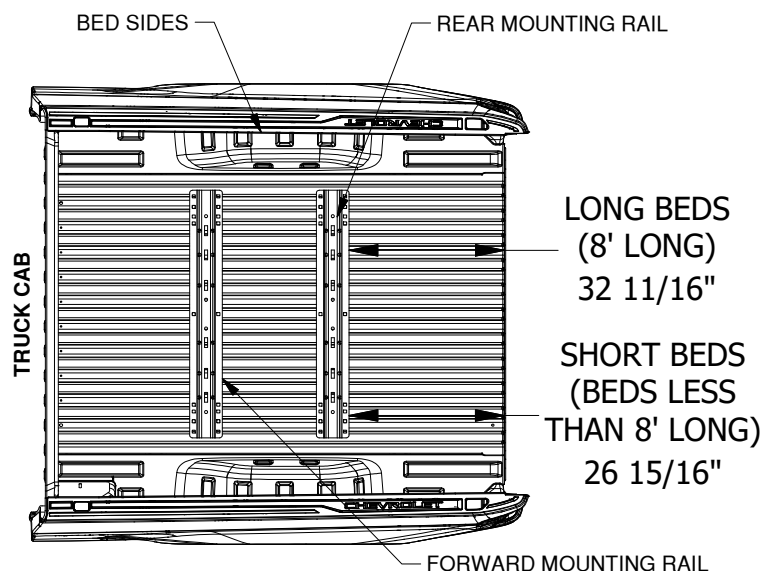

Figure B1: View over bed.
1. **Layout the rear mounting rail.** Place a mounting rail onto the bed of the truck. Hook a tape measure over the rear edge of the bed (not on any part of the tailgate), measure the location for the mounting rail, as shown in Figure B1. Next, center the mounting rail in the bed by measuring the distance on either side from the edge of the rail to the sides of the bed. The rail will be centered when both measurements on either side of the rail are the same.